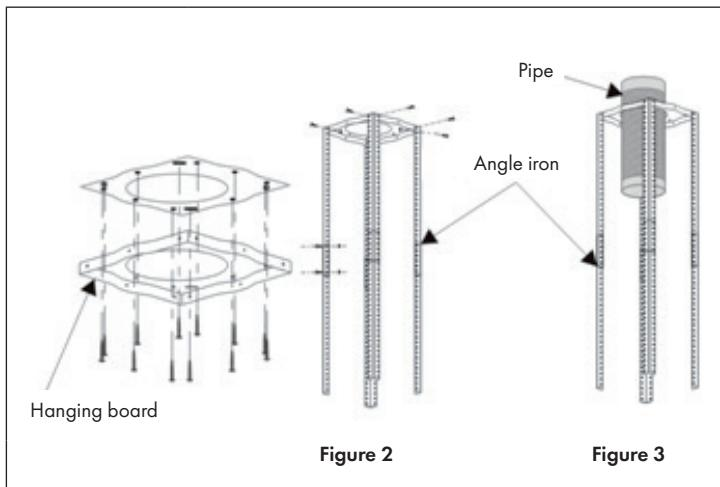

Figure 2
4. According to the hanging board, drill 12 holes in the ceiling, see figure 2. 12 ST6*40 mm big flat screws will be used to fix the hanging board on the ceiling, and then 8 M4*10 screws and a M4 nut with gasket will be used to connect the angle iron into the hanging board, see pic 1. After calculating the length of the angle iron, 16 M4*10 big flat screws and a M4 nut with gasket should be used to connect the angle iron and another angle iron (the overlap length of angle iron can not be less 10 cm).